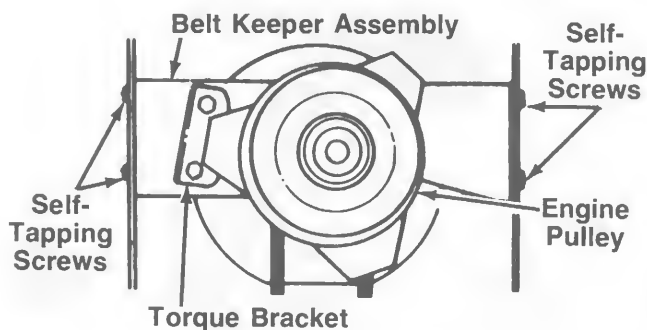

FIGURE 27.—Model 784G
5. Remove the torque bracket by removing two hex bolts and washers. See figure 27.
6. Remove the belt keeper assembly by removing the four self-tapping screws which hold the belt keeper assembly to the frame at the engine pulley. See figure 27.